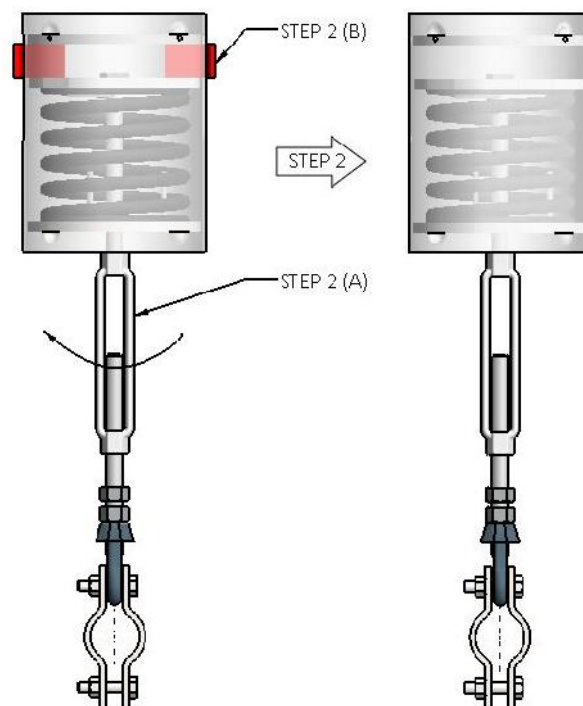

Figure 5.2 – Type A, B & C: View with Pre-Set Stops installed.
-)] For Types A, B and C Supports (Figure 5.2), transfer load from pipe to spring support by rotating the turnbuckle in a Right to Left, Step 2(A). Then Remove the Pre-set stops by hand, Step 2(B).